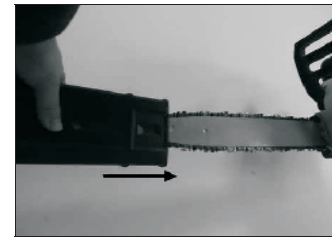

Fig.7A
6.5 FITTING THE GUIDE BAR AND CHAIN (FIG.7A/B/C)